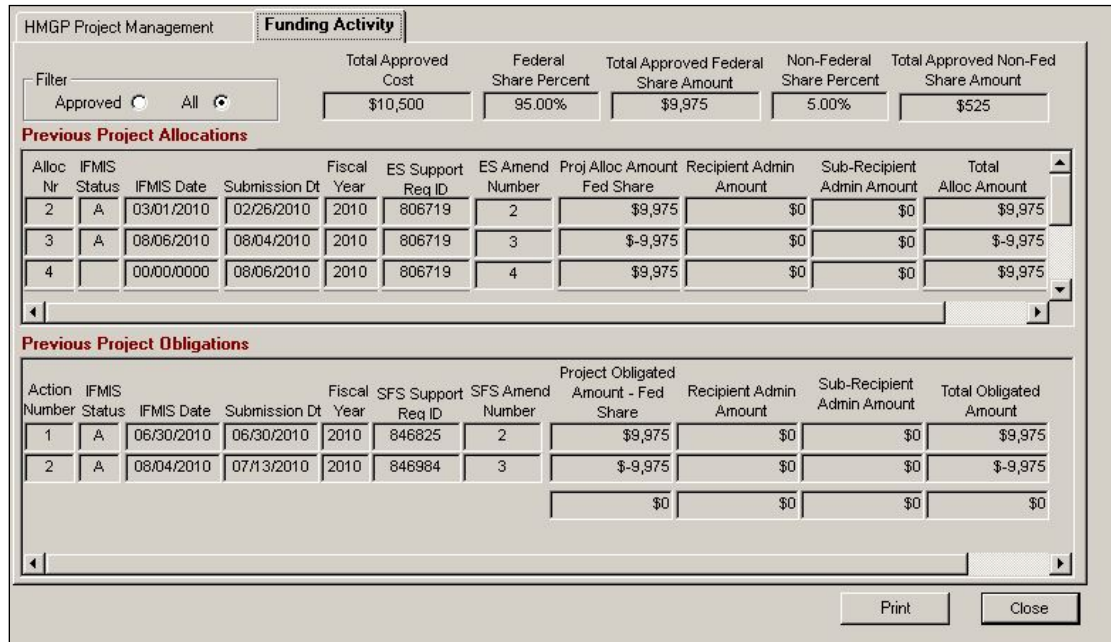

Figure 11-21: Funding Activity Tab
15. Click the **Funding Activity** tab. The **Funding Activity** tab displays approved Project Costs, and Allocation/Obligation history (Figure 11-21).